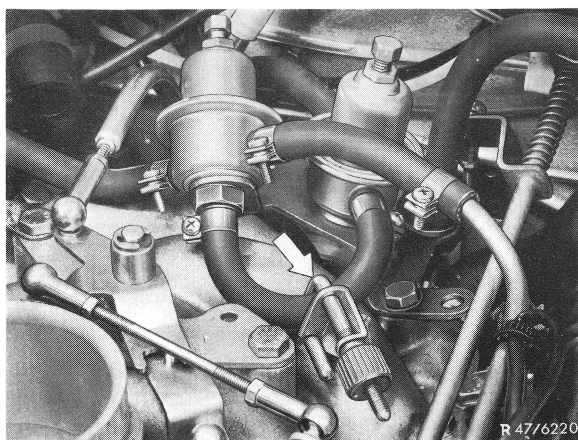

Fig. 3
b) Check pressure regulator by switching on the ignition and disconnecting the fuel return hose following the pressure regulator the moment the fuel pump stops (arrow in Fig. 3). If the pressure gauge shows no drop in fuel pressure, the pressure regulator leaks and should be replaced.